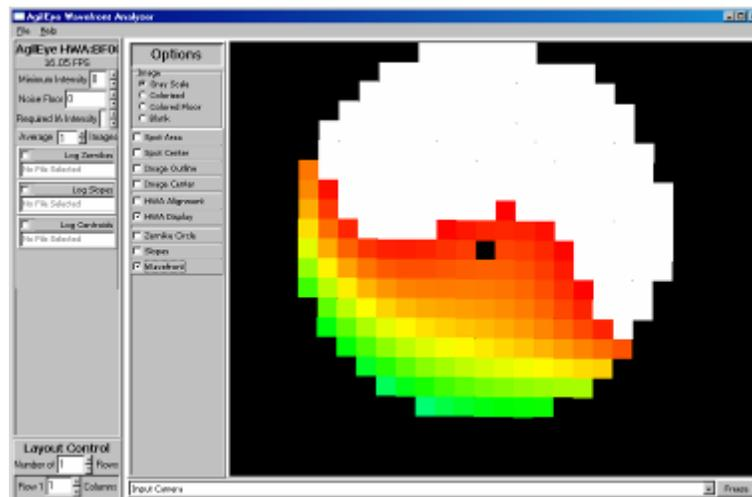

Figure 40. HWA Display and Wavefront
17. The red bars are the slopes of the incoming beam at each point in the Zernike circle. Their length is proportional to the magnitude of the slope. They are five times longer than their actual magnitude. Deselect **Slopes** and select **Wavefront** to see something similar to Figure 40.